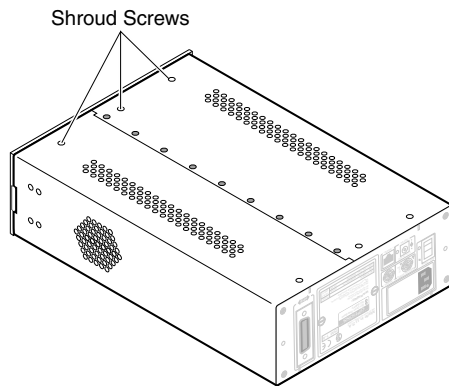

Figure 3-8 Bottom Front Shroud Screws
- 5 Turn the Counter upside-down, and remove the three 4-40 x 3/16-inch countersunk shroud screws on the bottom of the Counter near the front edge of the shroud (see Figure 3-8).